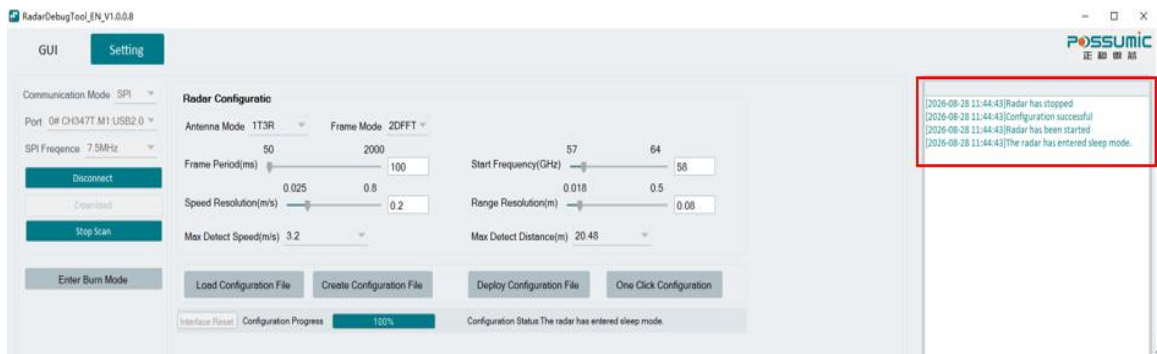

Figure 4-9 Displaying Debug Information on the Host
3. Developers can switch to the Setting screen at any time, select a waveform, and click One-Click Configuration to configure the radar waveform and observe the point cloud. The Radar Antenna Operating Mode setting differs between RS6130 and RS6240. RS6130 currently supports only 1T3R, while RS6240 supports only 2T4R. Reported data is displayed in the red box in Figure 4-9.